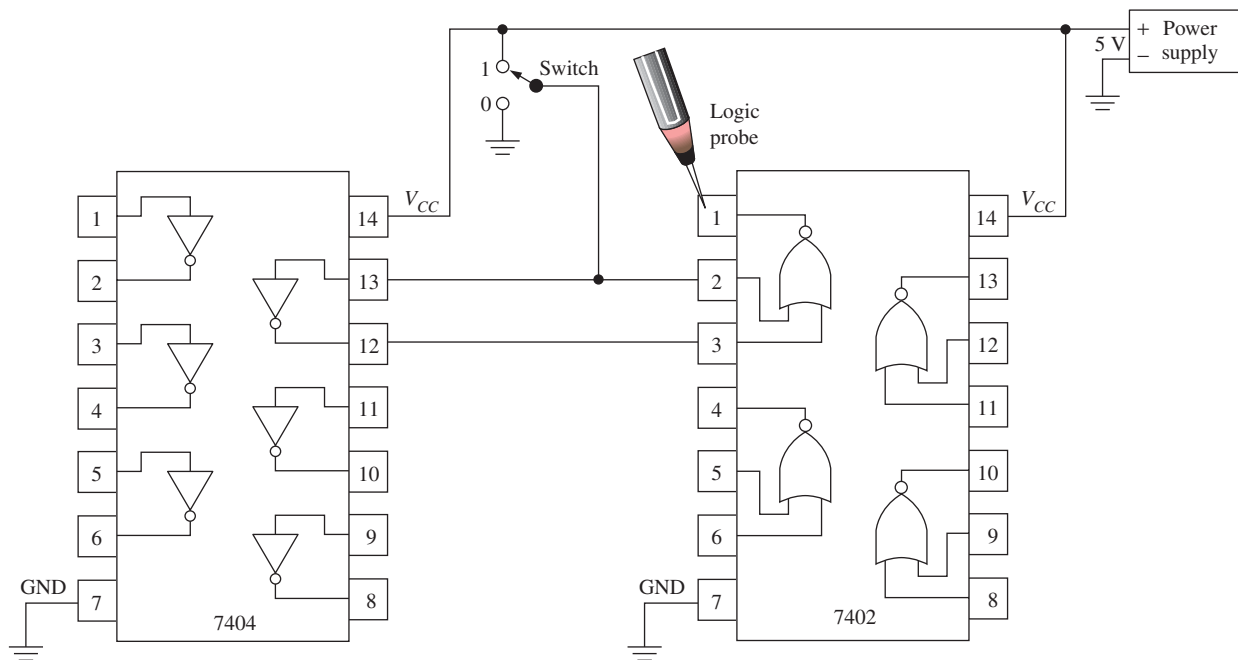

Figure P45
- C T** 45. The logic probe in Figure P45 is always OFF (0) whether the switch is in the up or down position. Is the problem with the inverter or the NOR, or is there no problem?
- C T** 46. Another circuit constructed the same way as Figure P45 causes the logic probe to come on when the switch is in the down (0) position. Further testing with the probe shows that pins 2 and 3 of the NOR IC are both LOW. Is anything wrong? If so, where is the fault?